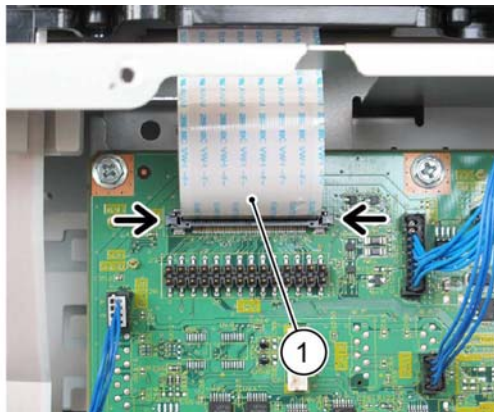

Figure 2 Ribbon cable
3. Carefully disconnect the ribbon cable (1) by releasing the side clips, Figure 2.